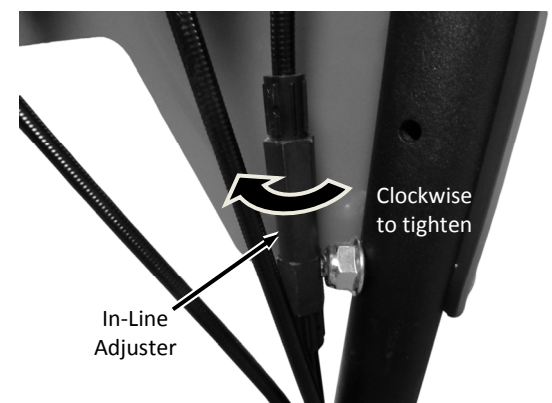

Figure 23
1. Locate the Traction Drive Cable along the right Handlebar (behind the Operator Panel). There is an In-Line Adjuster to change the tension on the Cable (Figure 23).